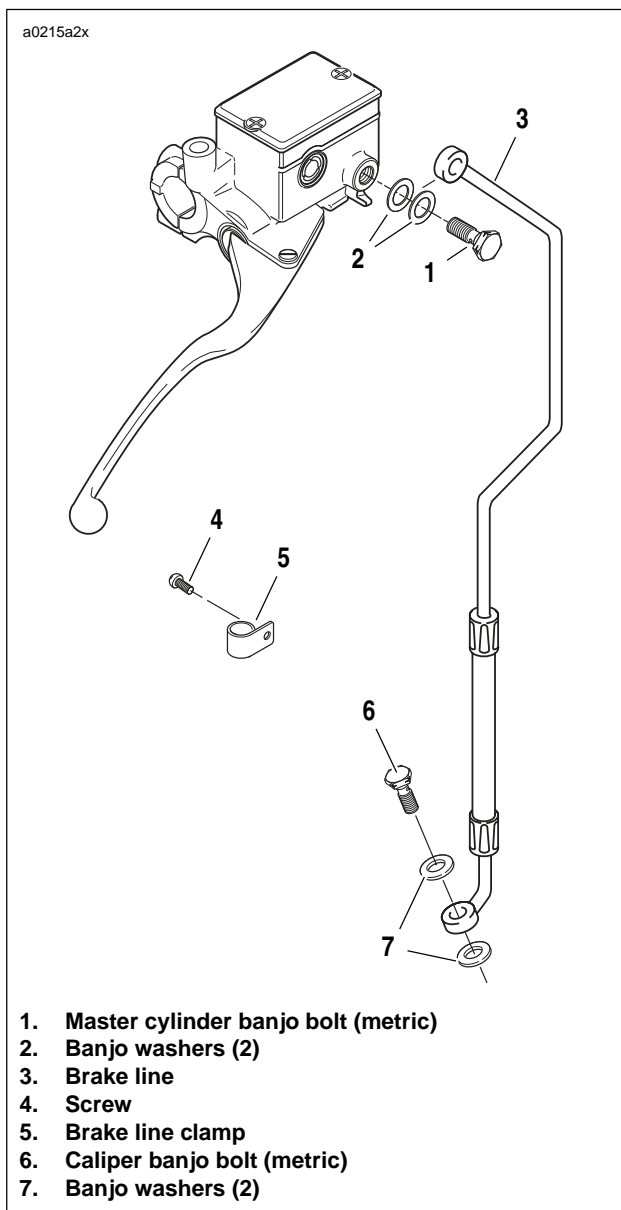

Figure 2-44. Front Brake Line
2. See Figure 2-44. Remove screw (4) to detach brake line clamp (5) from right side of lower triple clamp. Remove brake line from wireform.
1. See Figure 2-44. Connect brake line to master cylinder using two **new** banjo washers (2) and banjo bolt (1) (metric). Loosely install bolt into master cylinder.
2. From the master cylinder, the brake line runs downward in front of the right handlebar, where it turns inboard at the upper triple clamp. Loosely install clamp (5) with screw (4) to attach front brake line to right side of lower triple clamp. Position brake line in wireform.
3. Connect brake line to caliper using two **new** banjo washers (7) and banjo bolt (6) (metric). Tighten banjo bolt (6) to 16-20 ft-lbs (22-27 Nm).
4. Tighten clamp screw (4) on lower triple clamp to 36-60 in-lbs (4-7 Nm).
5. Tighten master cylinder banjo bolt (1) (metric) to 16-20 ft-lbs (22-27 Nm).